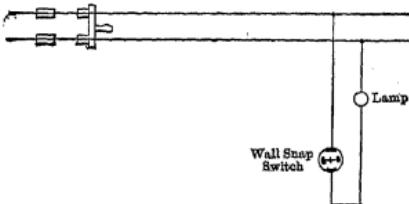

FIG. 160: The lamp is controlled from a single wall switch.
86. The Control of Incandescent Lamps. Fig. 160 represents the ordinary wiring of a lamp when it is desired to turn it off or on from a single wall switch.